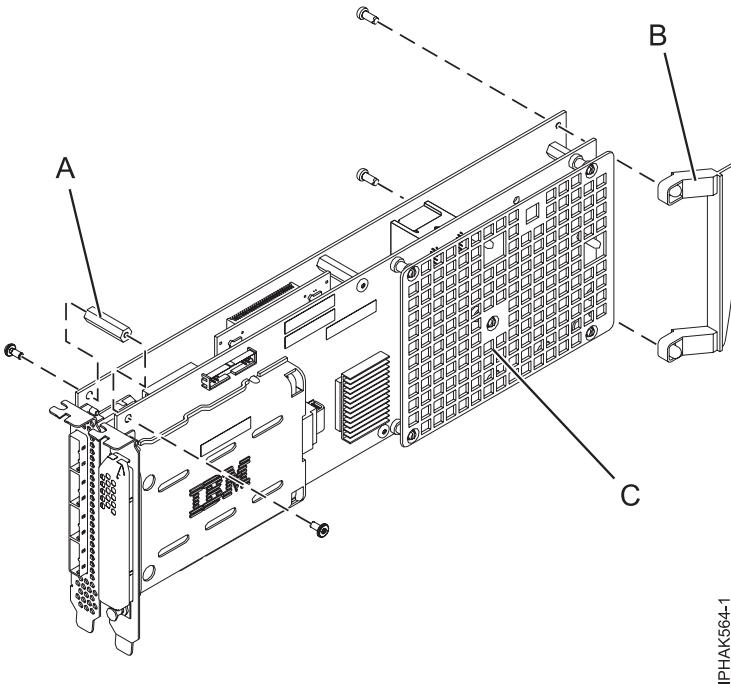

Figure 50. Removing the plastic grid from a PCI-X DDR 1.5 GB cache SAS RAID Adapter
2. On a PCI-X DDR 1.5 GB cache SAS RAID Adapter, remove the plastic grid (**C**) from the plastic standoffs, but leave the standoffs in place. See Figure 50.